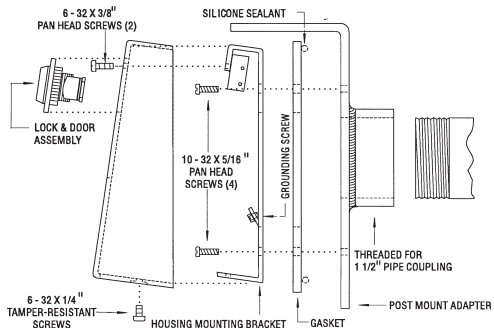

FIGURE 20
**(See Figure 20)**
7. Place housing door into door opening and rotate key 90 degrees clockwise.